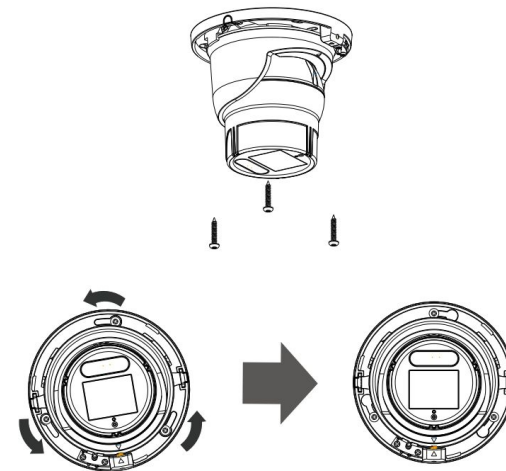

Figure 1-4
Step 3 Fasten the 3 screws halfway, turn the camera then fasten the screws firmly. See Figure 1-4.